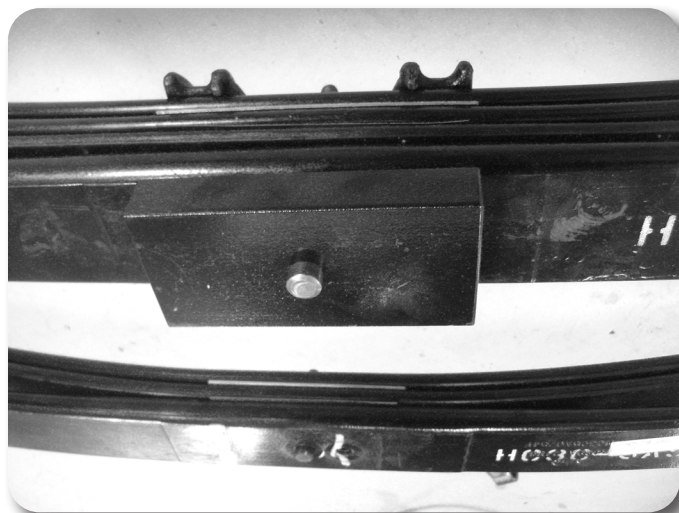

Figure 25
14. Assemble the leaf spring as shown. Use the 1" bolt on block, overload, add-a-leaf, main leaf pack, and top mounted overload springs if equipped (not shown), and upper u-bolt plate. Tighten center pin nut to 20 ft-lbs. Figure 25
17. Attach 1" bolt on block to the bottom of the main leaf pack with new center pin. Tighten to 20 ft-lbs. See Fig 25 above.